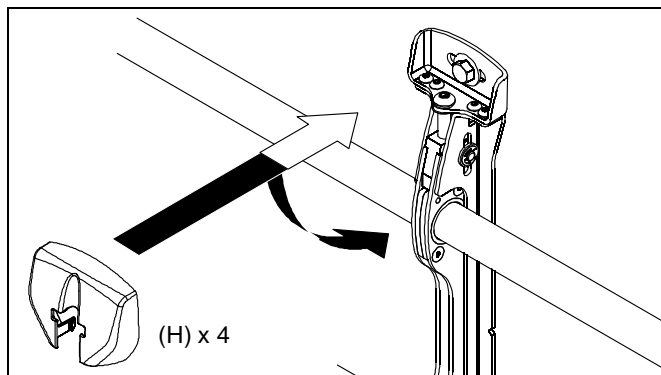

Figure 7
1. Attach wall bracket caps (H) to top and bottom of both wall brackets. (See Figure 7)